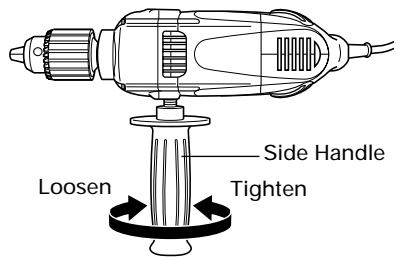

Fig. 5
8. Installing the side handle (Fig. 5)